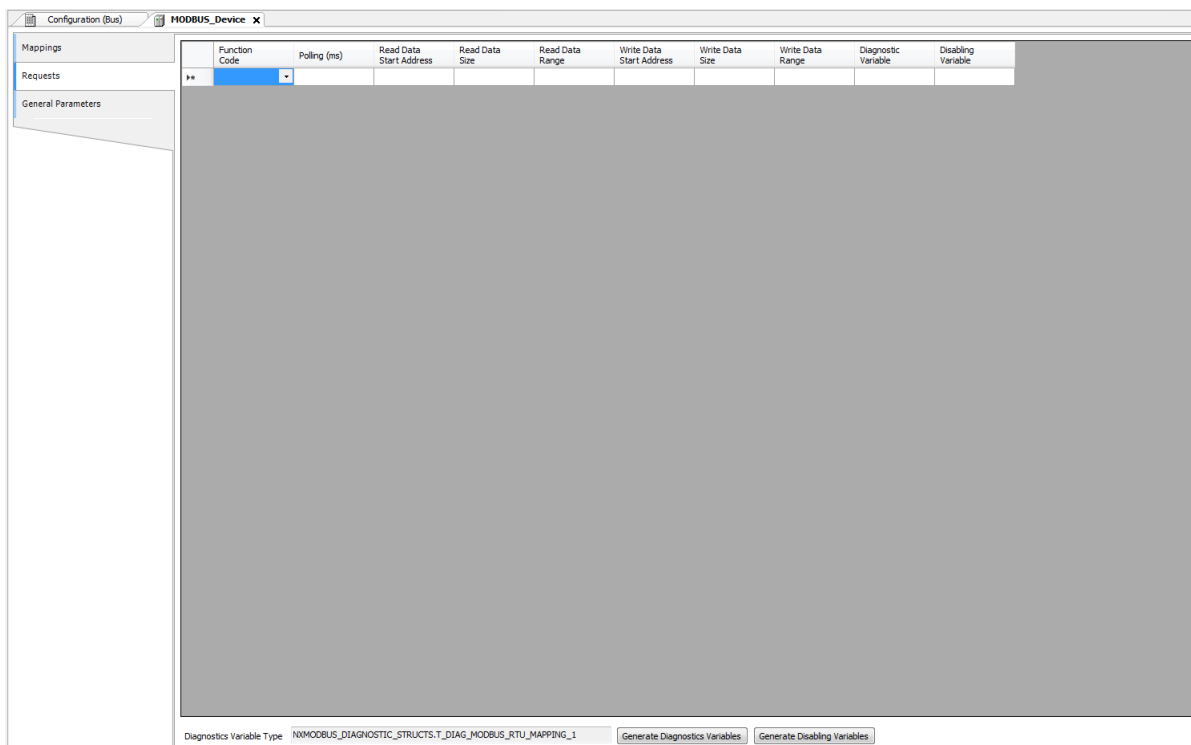

Figure 46: Data Requests Screen MODBUS Master
- Add and configure the MODBUS requests as presented in Figure 46, specifying the function, the scan time of the request, the starting address (read/write), the data size (read/write) and generate diagnostic variables and disabling the request via the buttons at the bottom of the window.